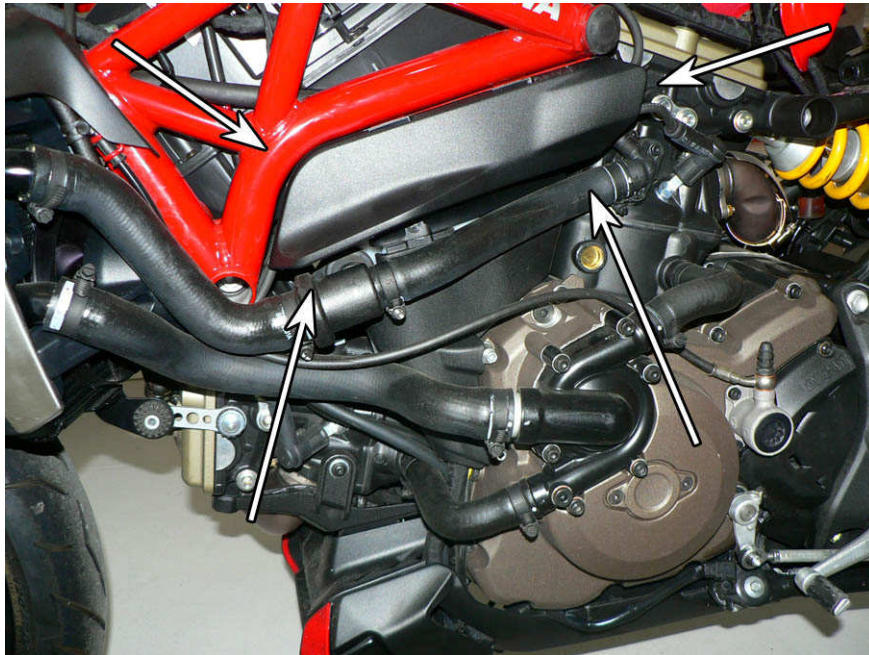

Fig.11
12. Remove the plastic cover on the left hand side to ease the routing of the wiring harness (**Fig.11**).